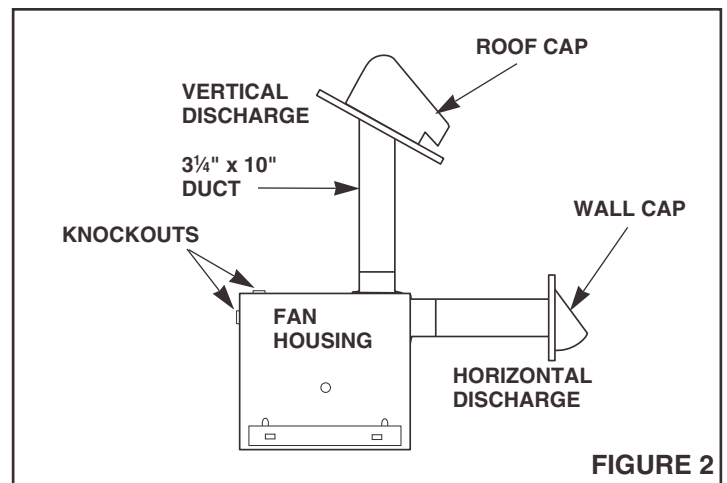

FIGURE 2
2. **Refer to Figure 2.** Remove one of the wiring knockouts from the housing.